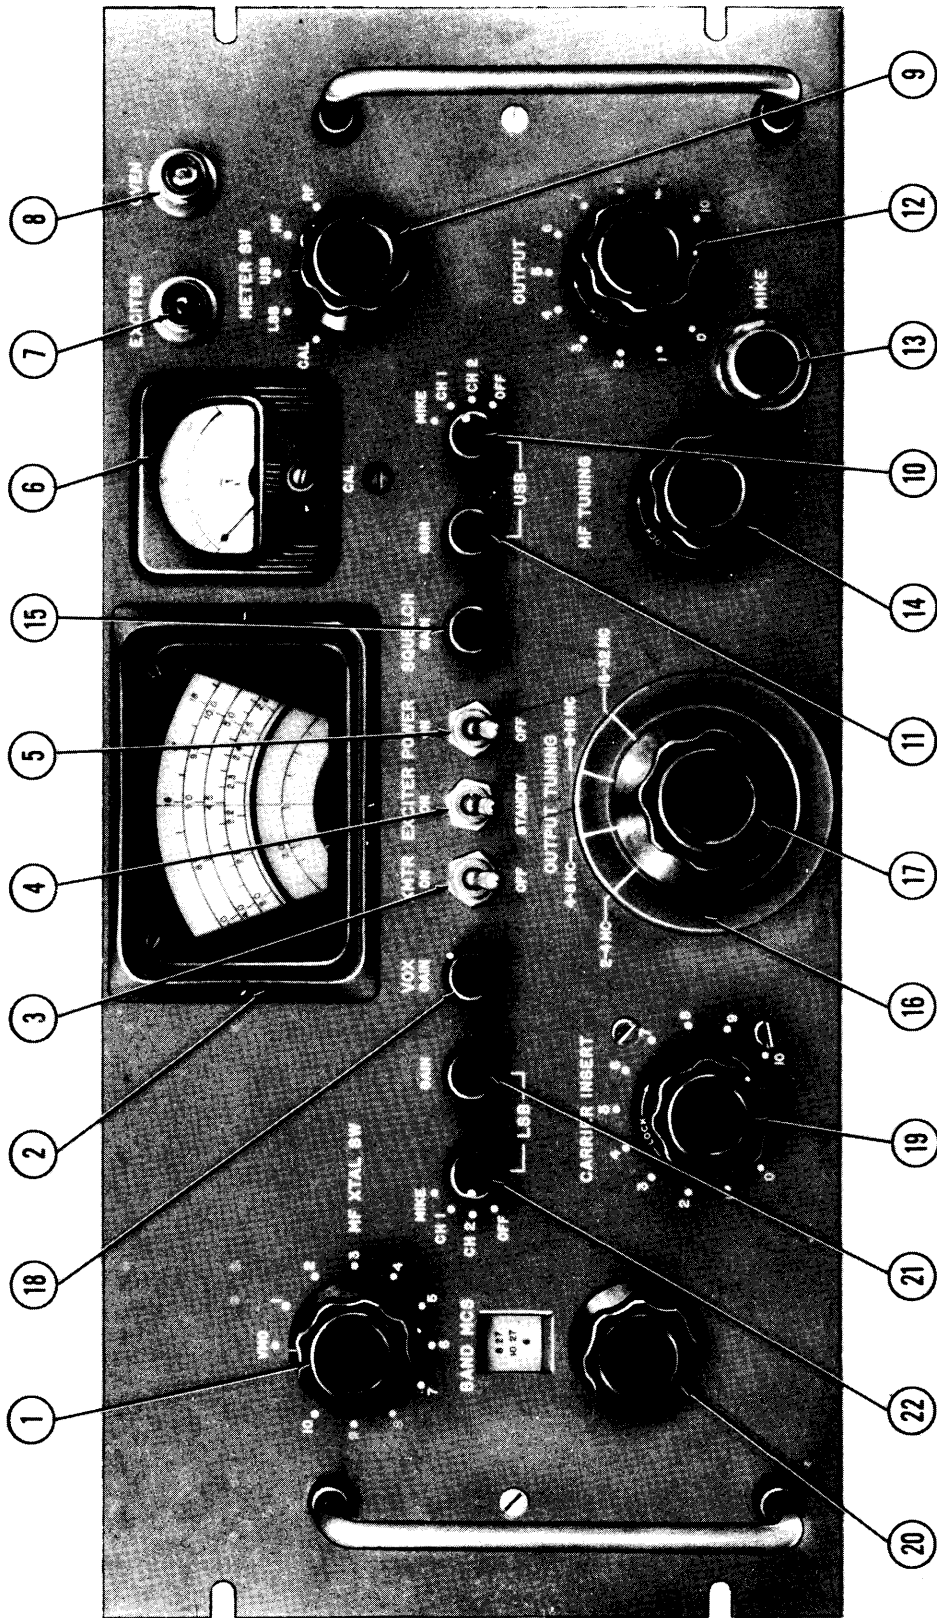

Figure 3-1. Operating Controls
a. POWER ON-OFF S103 is a toggle-switch control designated 5 on figure 3-1. ON, applies line voltage to power supply. OFF, turns SBE off entirely.
b. LSB S102 is a switch control designated 22 on figure 3-1. Selects audio input source for lower sideband channel.
c. LSB GAIN R169 is a potentiometer control designated 21 on figure 3-1. Adjusts level of LSB audio input.
d. USB S101 is a switch control designated 10 on figure 3-1. Selects audio input source for upper sideband channel.
e. USB GAIN R168 is a potentiometer control designated 11 on figure 3-1. Adjusts level of USB audio input.
f. OUTPUT TUNING KNOB S106 is part of switch control designated 17 on figure 3-1. Selects output frequency band. The associated outer disc designated 16 tunes the RF output circuits that are a part of the 2- to 32-mc HF section.
g. MIKE J101 is a connector control designated 13 on figure 3-1. Input jack to audio pre-amplifier for all high impedance microphones.
Front panel control R263 (CARRIER INSERT), designated 19 on figure 3-1, selects any degree of carrier insertion from -55 db to full output of the SBE. It does so by taking the required amount of 250-kc output from 250-kc oscillator V105.
CARRIER INSERT R263 (control 19 on figure 3-1) which controls level of carrier insertion.
Sideband energy centering around 250 kc is coupled by T127 to pins 2 and 7 of push-pull amplifier V113. A 2- to 4-mc injection is obtained from V115 which, in turn, is fed by the crystal oscillator section or the VMO input from J104. This injection frequency is 250 kc higher than the lower sideband output of the medium frequency modulator. The mid frequency dial (the single-scale dial of control designated 2 on figure 3-1) is calibrated to read directly in terms of the MF injection frequency; however, its associated circuit is actually tuned 250 kc below it by variable capacitors C167A and C167B (knob control 14 on figure 3-1). The grids of tubes V113A and V113B are supplied with 250-kc sideband voltages as well as MF injection voltages, and the lower sideband is passed by the tuned circuits of the modulator. The balancing out of the 2- to 4-mc injection supply is accomplished by MF balance control R130 which varies the gain of the A and B sections of V113; thus, the 2- to 4-mc injection cancels in the primary of T109. The medium frequency modulator serves as the final modulation stage when output frequencies of less than 4.25 mc are required from the SBE. For output frequencies greater than 4.25 mc, its output is further raised in frequency by the high frequency modulator.
Selection of the proper crystal for use with MF XTAL SW S107 (control designated 1 on figure 3-1) is as follows: Suppose the desired RF output of the SBE is 10.235 mc. BAND MCS switch S108 (control designated 20 on figure 3-1; a part of the 2- to 32-mc HF section, refer to paragraph 4-5) shows a multiplying factor of 6 on its dial for an 8.25- to 10.25-mc range. The crystal to be selected by the position of MF XTAL SW S107 should have a frequency of  $2 \times 6 + 0.250 - 10.235$  mc or 2.015 mc. The crystal sockets associated with MF XTAL SW S107 may hold up to 10 crystals, each corresponding to a particular RF output of the SBE.
a. MF XTAL SW S107 is a switch control designated 1 on figure 3-1. Selects either external oscillator (VMO) or proper crystal for mid frequency oscillator.
b. MF TUNING C167A and C167B is a variable capacitor control designated 14 on figure 3-1. Tunes MF (2- to 4-mc) modulator and is associated with the single-scale dial of control designated 2 in figure 3-1.
The function of high frequency modulator Z107 is to provide final output frequencies from 4.25 to 32.25 mc by modulating the output of the medium frequency amplifier with an injection frequency from the high frequency oscillator. The medium frequency amplifier output is received at terminal 2 of Z107, and the HFO output at jack J110. Final output frequencies between 2 and 32 mc are fed directly into the control grid of the first RF amplifier, V118. The high frequency dial (the multi-scale dial of control designated 2 on figure 3-1) is calibrated to read directly in terms of the frequency to which RF amplifiers V118, V119, and V120 are tuned.
Injection frequencies from 8 to 34 mc in 2-mc steps are supplied by crystal-controlled high frequency oscillator V117. The proper injection is selected by the use of BAND MCS switch S108A and S108B, a front panel control designated 20 on figure 3-1. The injection is always between 1.75 mc and 3.75 mc higher than the output of Z107 because one input of Z107 is supplied by the medium frequency amplifier (whose output is the 0.25-mc lower sideband from its crystal; that is, 1.75 to 3.75 mc) and the other input is supplied by the HFO injection. The BAND MCS switch is used in the 0 position when SBE outputs below 4.25 mc are required. In this case, an 18-mc injection is applied to Z107 to prevent intermodulation distortion by keeping diodes CR107 and CR108 properly biased. The 18-mc injection and the sidebands produced in Z107 are not passed by the RF amplifiers which are tuned to 4.25 mc or less (approximately 14 mc away) in this instance.
The RF output taken from OUTPUT R205, a front panel control designated 12 on figure 3-1, is now at the output frequency of the SBE. The purpose of V118, V119, and V120 is to build up the generated signal to the rated 1-watt PEP output of the SBE. These stages are gang-tuned by C181A, C181B, C181C, and bandswitched by S106A, S106B, and S106C to cover the frequency range of 2 to 32 mc continuously. A fourth section of this switch, S106D, is used for inverting upper and lower sideband inputs when the SBE is operating in the 3.75- to 4.25-mc range as stated in paragraph 4-2. A small portion of the output is applied to R210 and R211 where, through C176 and CR114, a small DC voltage is produced which is
a. BAND MCS S108A and S108B is a switch control designated 20 on figure 3-1. Determines injection frequency range of high frequency modulator in 2-mc increments. Associated dial indicates frequency.
b. OUTPUT TUNING disc C181A, C181B, and C181C is a variable capacitor control designated 16 on figure 3-1. Ganged variable capacitors tune output circuits that are part of the 2- to 32-mc HF section. The associated knob selects the output frequency band.
c. OUTPUT TUNING knob S106A, S106B, S106C, and S106D. Switch control, designated 17 on figure 3-1, selects output frequency band. The associated disc tunes the RF output circuits and is associated with the multi-scale dial of control designated 2 on figure 3-1.
d. OUTPUT R205 is a potentiometer control designated 12 on figure 3-1. Adjusts SBE output power level.
a. **EXCITER ON-STANDBY S105** is a toggle-switch control designated 4 on figure 3-1. **STANDBY** allows **VOX** or push-to-talk input to activate the **SBE** and the transmitter which the **SBE** serves. **ON** activates **SBE** without need for **VOX** or push-to-talk input and without operating associated transmitter.
b. **XMTR ON-OFF S104** is a toggle-switch control designated 3 on figure 3-1. **ON**: activates transmitter. Eliminates need for **VOX** or push-to-talk, through **S105** (above), by completing the ground circuit of the **XMTR** finalplate relay. **OFF**: transmitter operated by **VOX** or push-to-talk circuit when **EXCITER** switch is in **STANDBY** position.
c. **VOX GAIN R140** is a potentiometer control designated 18 on figure 3-1. Voice-operated transmitter circuit gain control.
d. **SQUELCH GAIN R129** is a potentiometer control designated 15 on figure 3-1. Used in conjunction with **VOX GAIN**. (Refer to paragraphs 3-8 and 3-9 of operator's section.)
e. **EXCITER I101** is an indicator designated 7 on figure 3-1. Lights during operation when **EXCITER** switch is on or **EXCITER** is activated by **VOX** or push-to-talk.